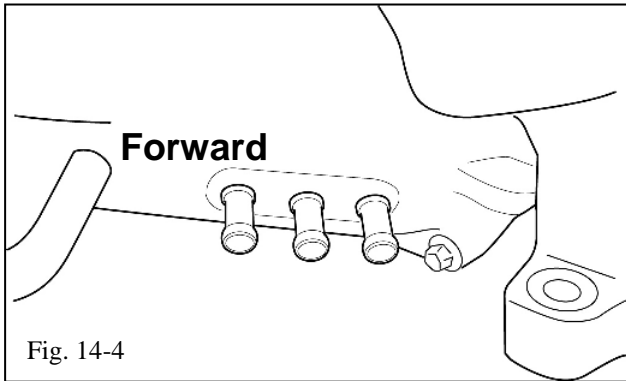
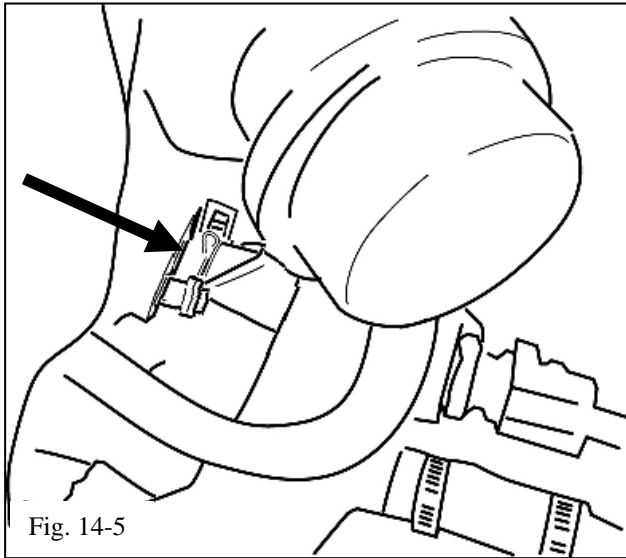

Fig. 14-4
Fig. 14-5
(g) The supercharger housing has three barbs at the front (Fig. 14-4). These will be referred to in subsequent steps as the “forward,” “middle,” and “rear” barbs.
(h) Use the OE clamp to attach the No. 1 ventilation hose to the middle barb (Fig. 14-4 & Fig. 14-5).
(k) Connect the purge valve to the forward barb (Fig. 14-4).
- (m) Use the supplied hose (Item B5) to connect the brake booster to the rear barb (Fig 14-4). Use the OE clamps previously removed in Step 6(i).